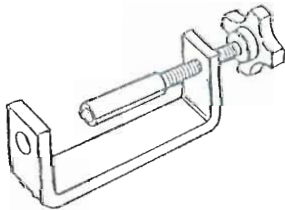

Fig 10
- 2) Place the hole in the Jacobs slave piston tool P/N 018238 (Fig 10) over the slave piston adjusting screw.